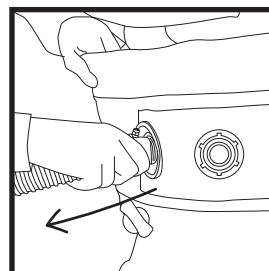

Fig. 18
19. Disconnect the pipe from the pump from the pole, then turn the pump off (otherwise the air will escape from the pole) (Fig.18).